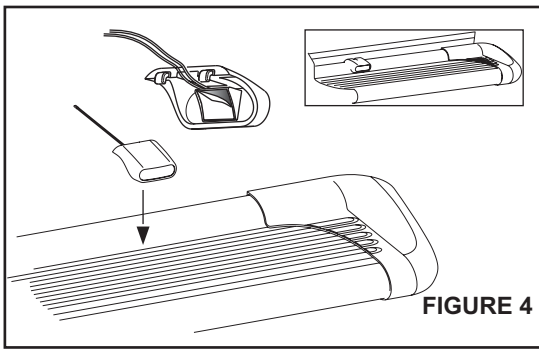
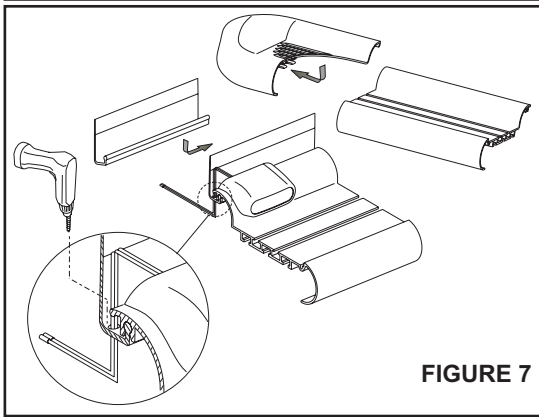

FIGURE 4
FIGURE 7
- STEP 4. For Sure Grip Running Boards, slide closure strip as shown. Set lights (if purchased) in appropriate location. Attach to Sure Grip Running Board as shown. **SEE FIGURE 4.** Drill hole through plastic strip and run wires as shown. **SEE FIGURE 7.**